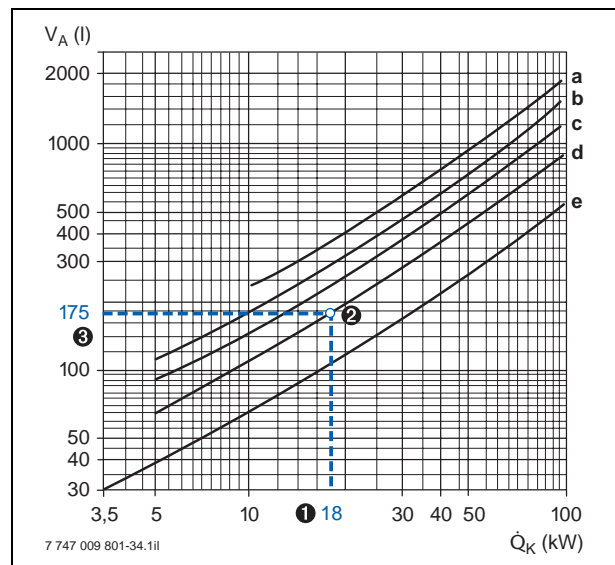

Fig. 64 Standard values for the average water content of heating systems (acc. to ZVH guideline 12.02 [Germany])
Subject to various heating system parameters, the system volume can be checked in fig. 64.
(→ fig. 64, curve d)
The system volume checked in accordance with point ③ from fig. 64 must be less than the maximum permissible system volume ④. Select a larger diaphragm expansion vessel if that is not the case.
- ③ System volume ( $\rightarrow$  fig. 64):  $V_A = 175\text{ l}$
- ④ A MAG with 18 l capacity is required ( $\rightarrow$  tab. 27), as the system volume ③ determined in accordance with fig. 64 is less than the maximum permissible system volume.